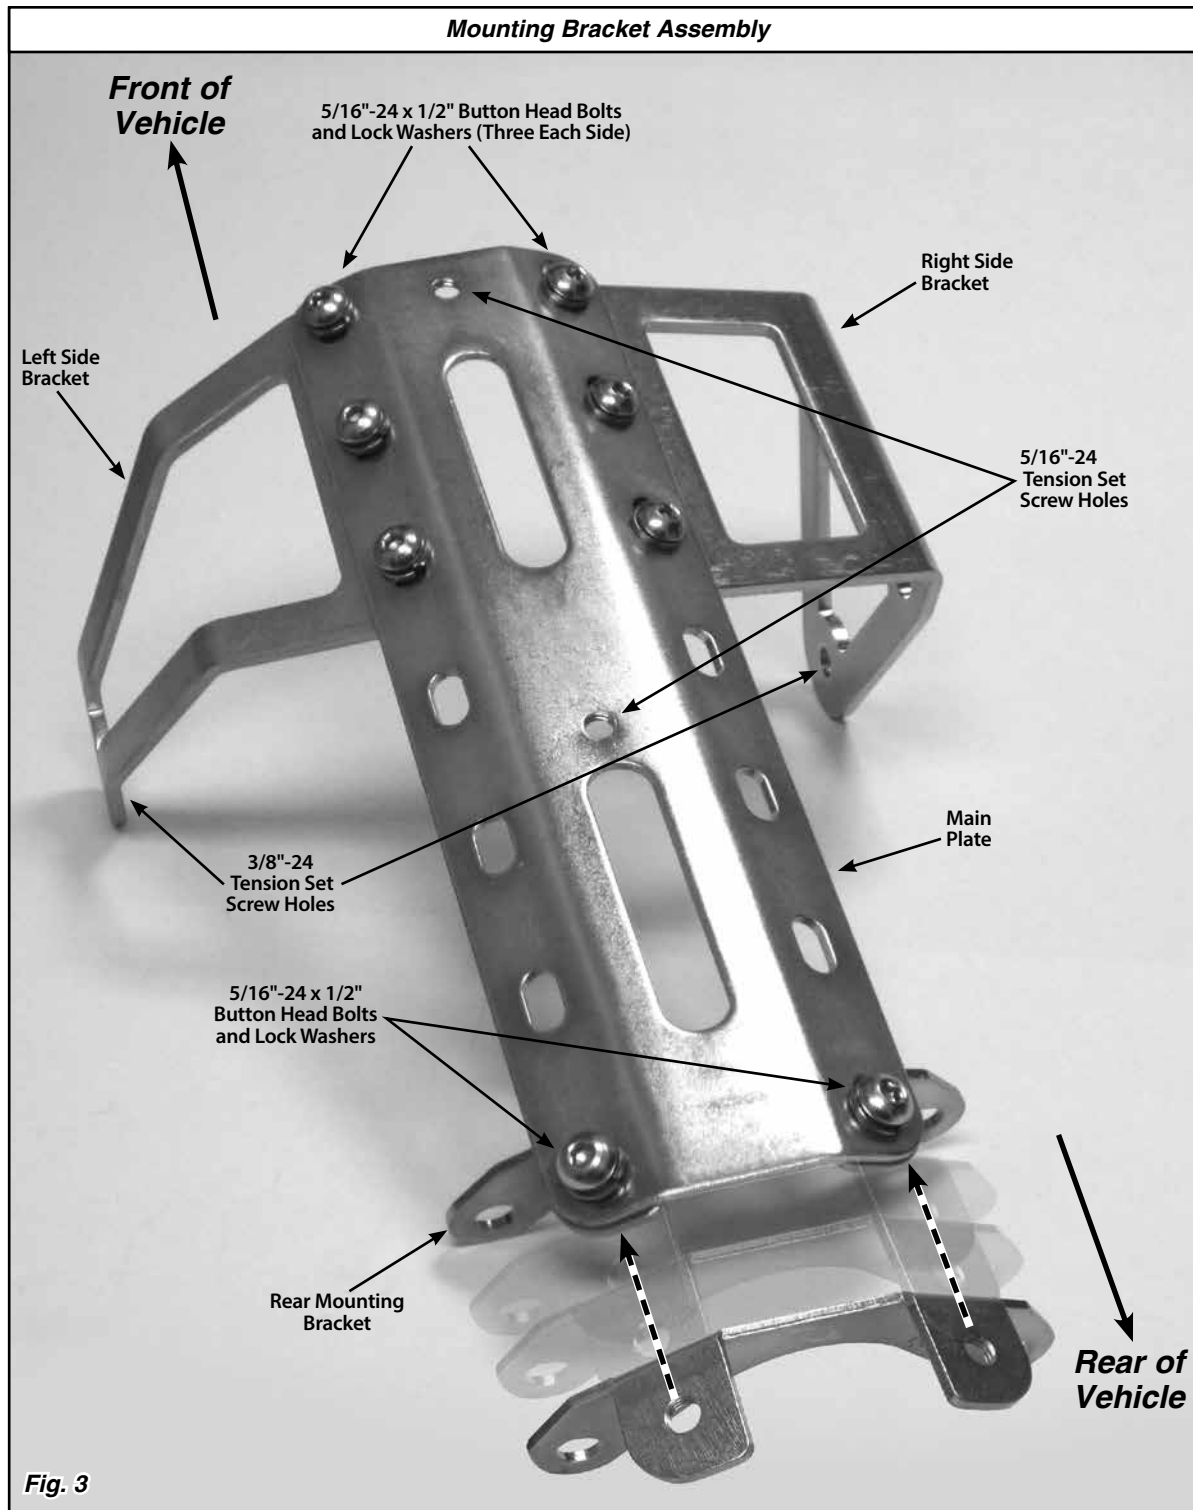

Fig. 3
The left side bracket and right side bracket bolt directly to the main plate. Attach the side brackets to the underside of the main plate as shown in **Fig. 3**, using three 5/16"-24 x 1/2" button head bolts and lock washers on each side. **DO NOT TIGHTEN AT THIS TIME.**
Step 4: Attach the rear mounting bracket to the underside of the main plate with the bracket ears pointing to the rear of the transmission (toward the rear axle) as shown in **Fig. 3**, using two 5/16"-24 x 1/2" button head bolts and lock washers. **DO NOT TIGHTEN AT THIS TIME.**